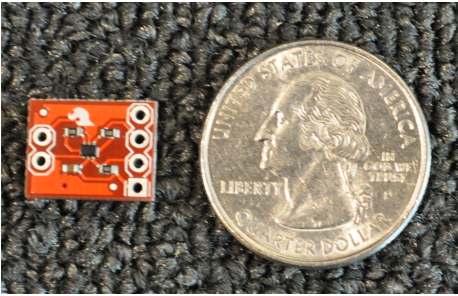

Figure 4-1.
- It is very small. Smaller than a quarter. See Figure 4-1 for proof.